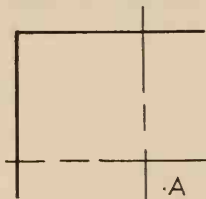
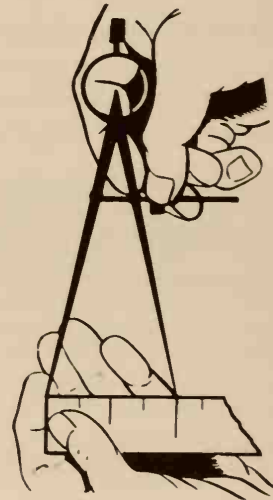

Fig. 4-15. Locating a center for laying out arcs and circles.
Fig. 4-16. Adjusting the dividers for a required radius.
9. Scribe all arcs and circles on the metal with the dividers. To locate the center for an arc, measure in the distance required and square the lines which intersect at point A, Fig. 4-15. Make a small indentation with a prick punch where the two main lines intersect at A. Use a rule to set dividers for the required radius, Fig. 4-16. Insert one point of